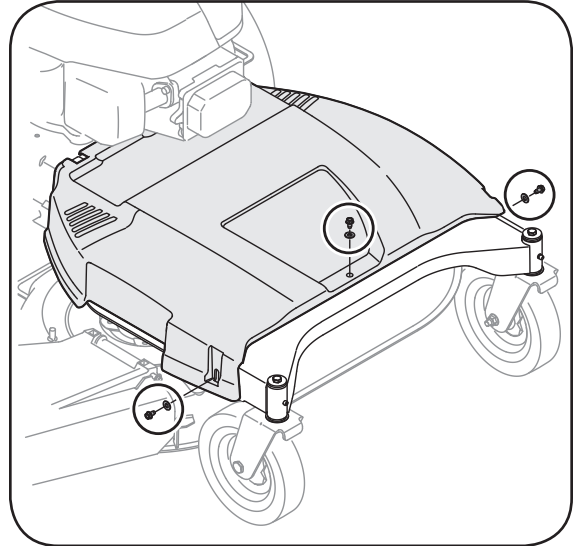

Figure 5-6
1. Remove the belt cover by removing the three screws and washers which secure it to the frame. See Figure 5-6.